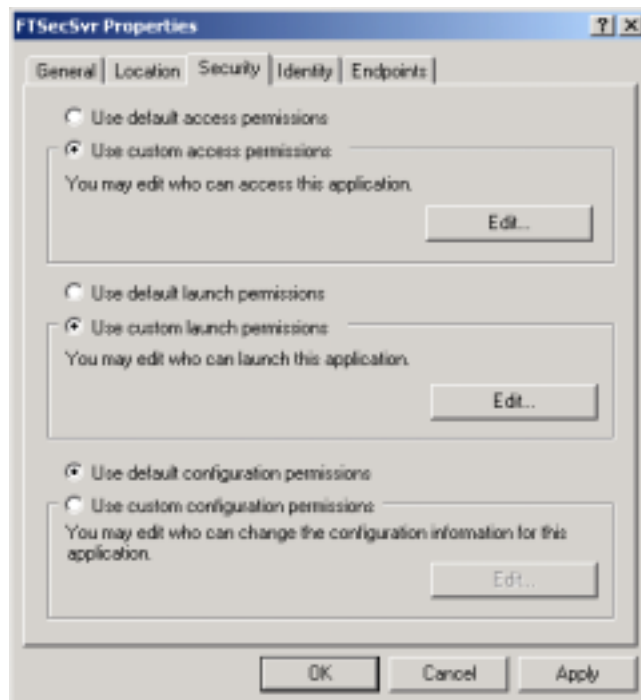

Figure 5.14e
3. The Properties dialog window opens. Click the Security tab. (Figure 5.14e)